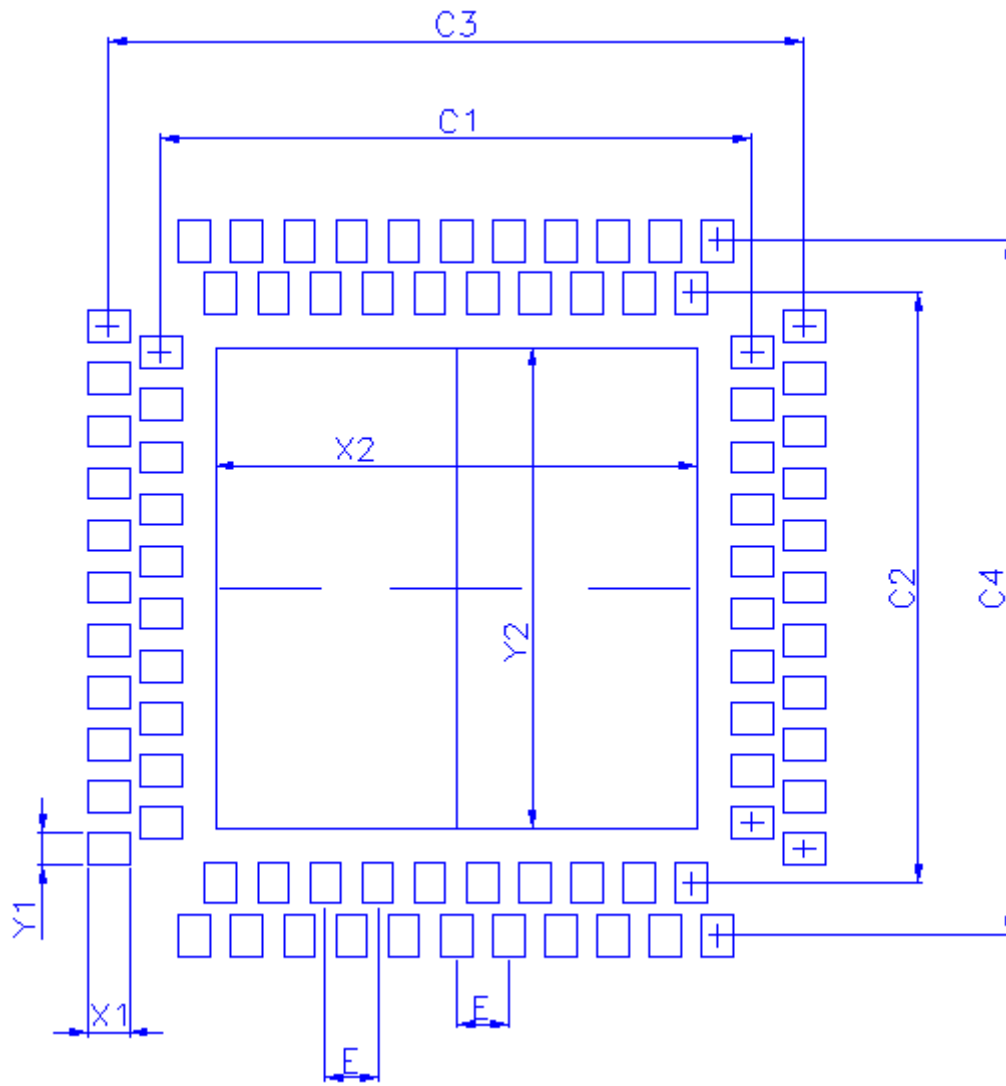

Figure 9.2. PCB Landing Pattern - DR-QFN
- Figure 9.2 PCB Landing Pattern - DR-QFN on page 71: Corrected dimensions C1, C2, C3, C4